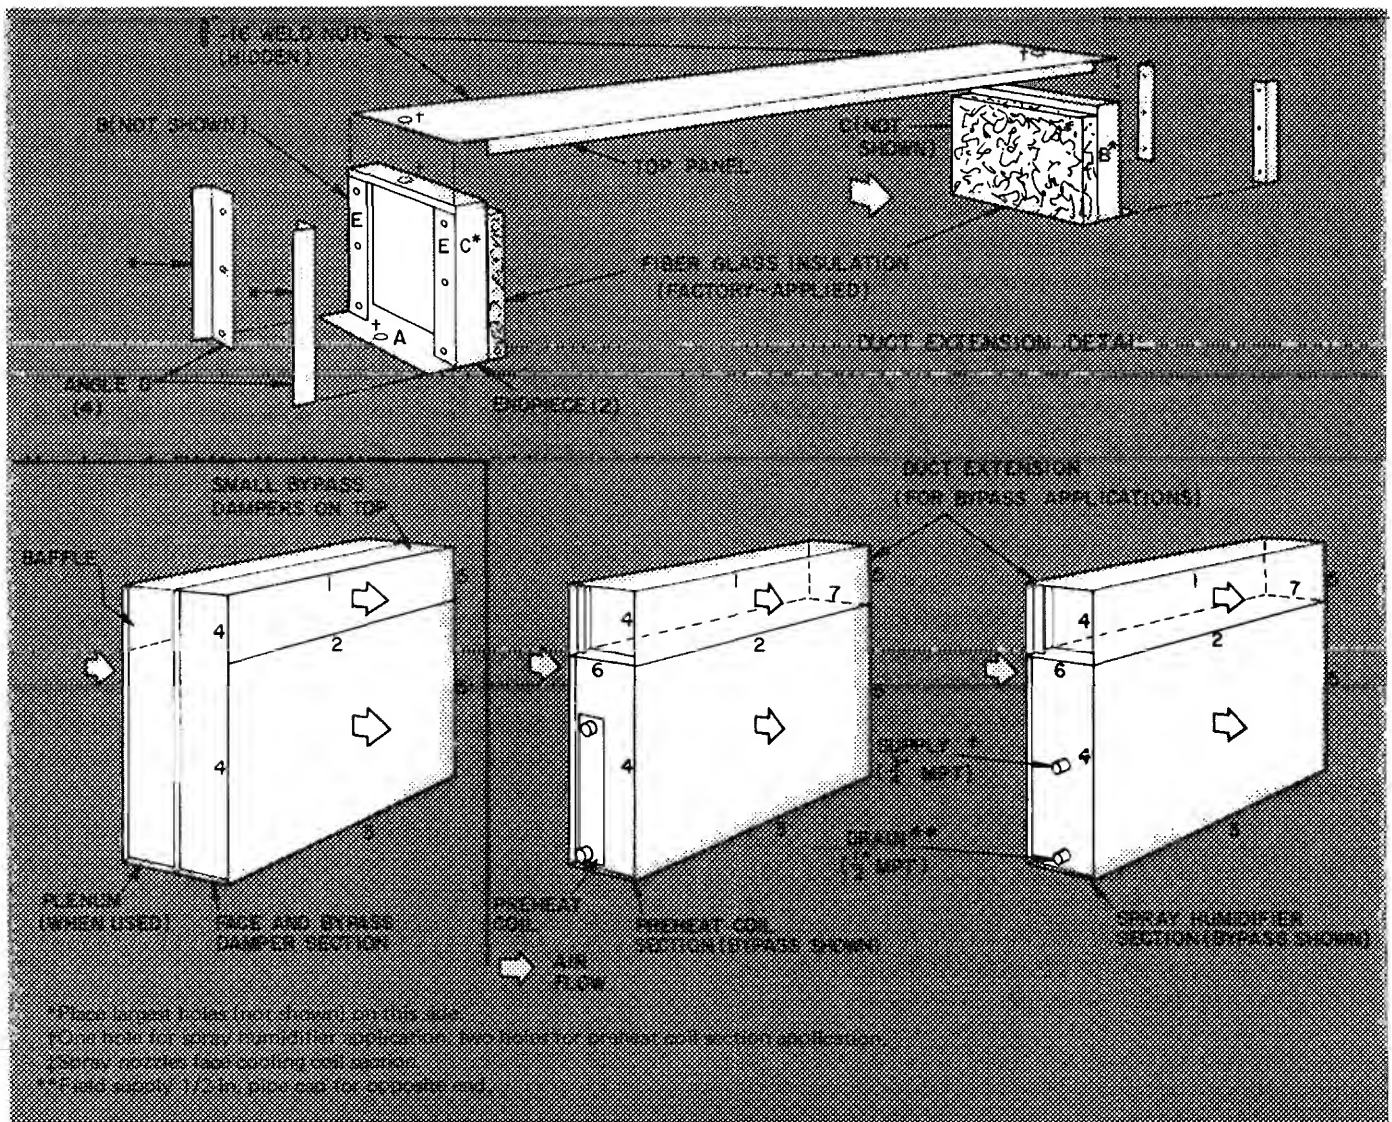

Fig. 8 — Assembly of Accessory Face and Bypass Damper Section; Preheat Coil Section and/or Spray Humidifier Section with and without Bypass — (Sizes 070-120)
- (1) Line up flange 11 and matching surface.
- (2) Drill ten engagement holes in matching surface with a no. 2 drill.
- (3) Fasten flange 11 to matching surface with ten 1/4-20 x 1/2-in. self-tapping screws.
- FACE AND BYPASS DAMPER SECTION; PRE-HEAT COIL SECTION AND/OR SPRAY HUMIDIFIER SECTION WITH AND WITHOUT BYPASS (Sizes 070 thru 120) – Refer to Fig. 8.**